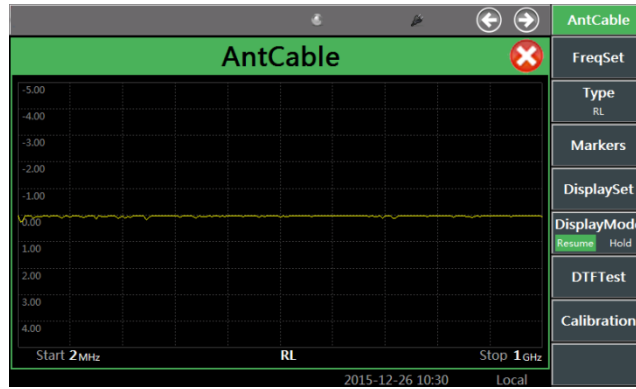

Fig. 4-13 Return Loss Test Interface
- Window opening: open the cable test window by pressing the [Cable] hard key or pressing the [Measurement] hard key and setting the instrument menu. Press the [Full Screen] hard key in the lower part of the screen to maximize the window, as shown in Fig. 4-13.
- Menu calling: click the touch screen, select the cable test as the current active window, and the corresponding menu will be displayed in the right side of the window, as shown in Fig. 4-13.